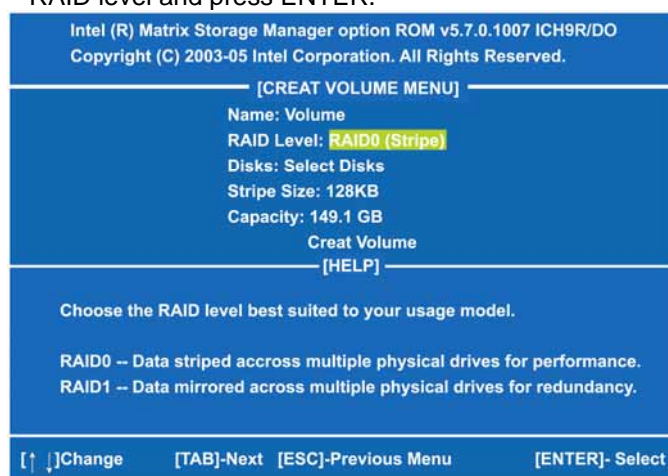

Figure 5
- (3)-3 After entering the **CREAT VOLUME MENU** screen, you can type the disk array name with 1~16 letters (letters cannot be special characters) in the item "Name". When finished, press ENTER to select a RAID level (as Figure 5). There are three RAID levels, RAID0, RAID1 and RAID5&RAID10. Select a RAID level and press ENTER.